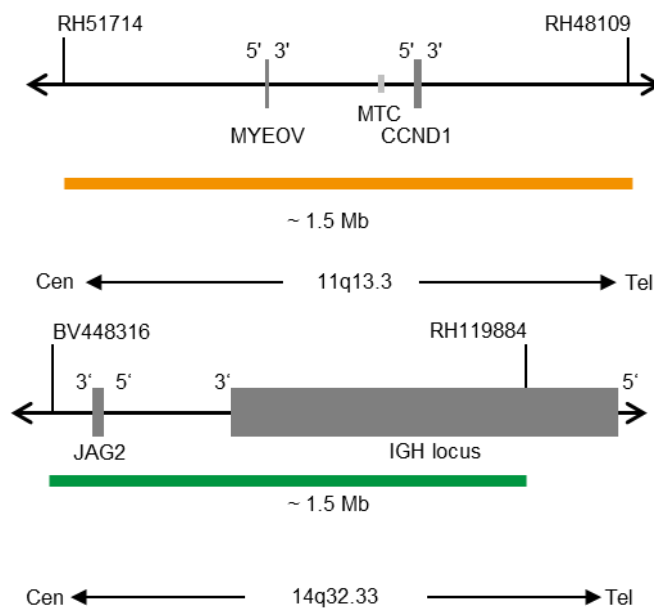

Fig. 1: Top: SPEC CCND1 Probe map; Bottom: SPEC IGH Probe map (not to scale)
- ZyOrange (excitation 547 nm/emission 572 nm) labeled polynucleotides (~6.0 ng/ μ l), which target sequences mapping in 11q13.3* (chr11:68,522,105-70,031,240) harboring the CCND1 gene region (see Fig. 1).
- ZyGreen (excitation 503 nm/emission 528 nm) labeled polynucleotides (~12.0 ng/ μ l), which target sequences mapping in 14q32.33* (chr14:105,462,169-106,995,000) harboring the IGH locus (see Fig. 1).